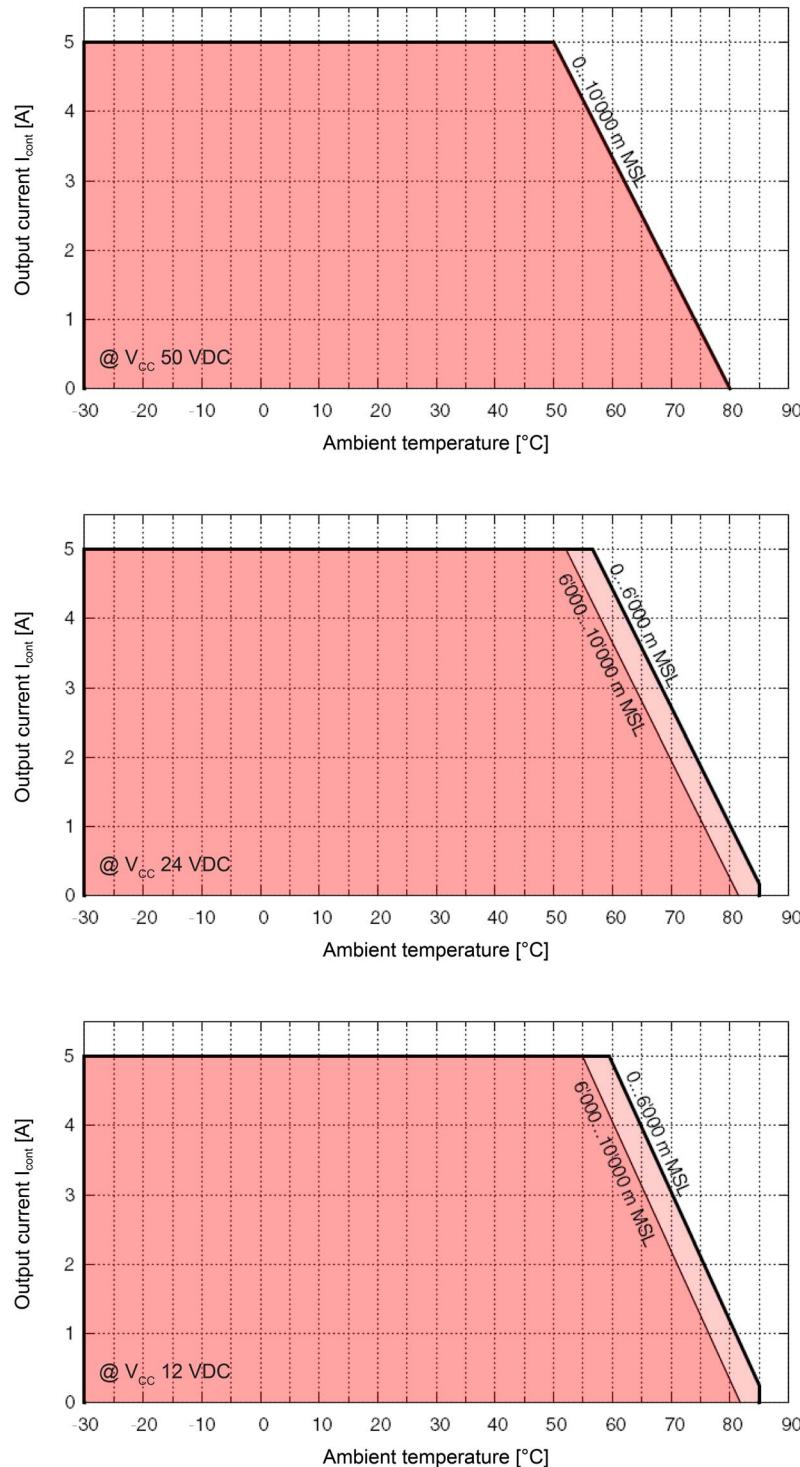

Figure 2-2 Derating of output current
| | | Extended range [a] | +50...+80 °C; Derating: $-0.167 \text{ A}/^{\circ}\text{C}$ (→Figure 2-2) Additional derating with inserted extension card: Ambient temperature less 5 °C (→Figure 2-2) [d] |
- [d] Derating further increases with an inserted extension card. For the actual value, consult →Figure 2-2 and shift the graph horizontally to the left by the specified value.